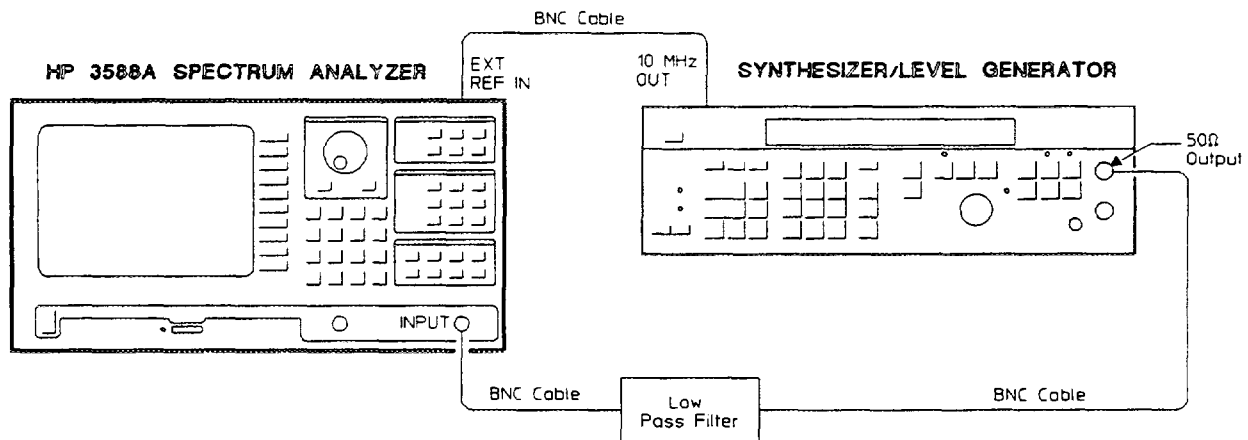

Figure 3-4. Input Harmonic Distortion Setup
- BNC Cables (3)
1. Connect the test equipment as shown in figure 3-4.